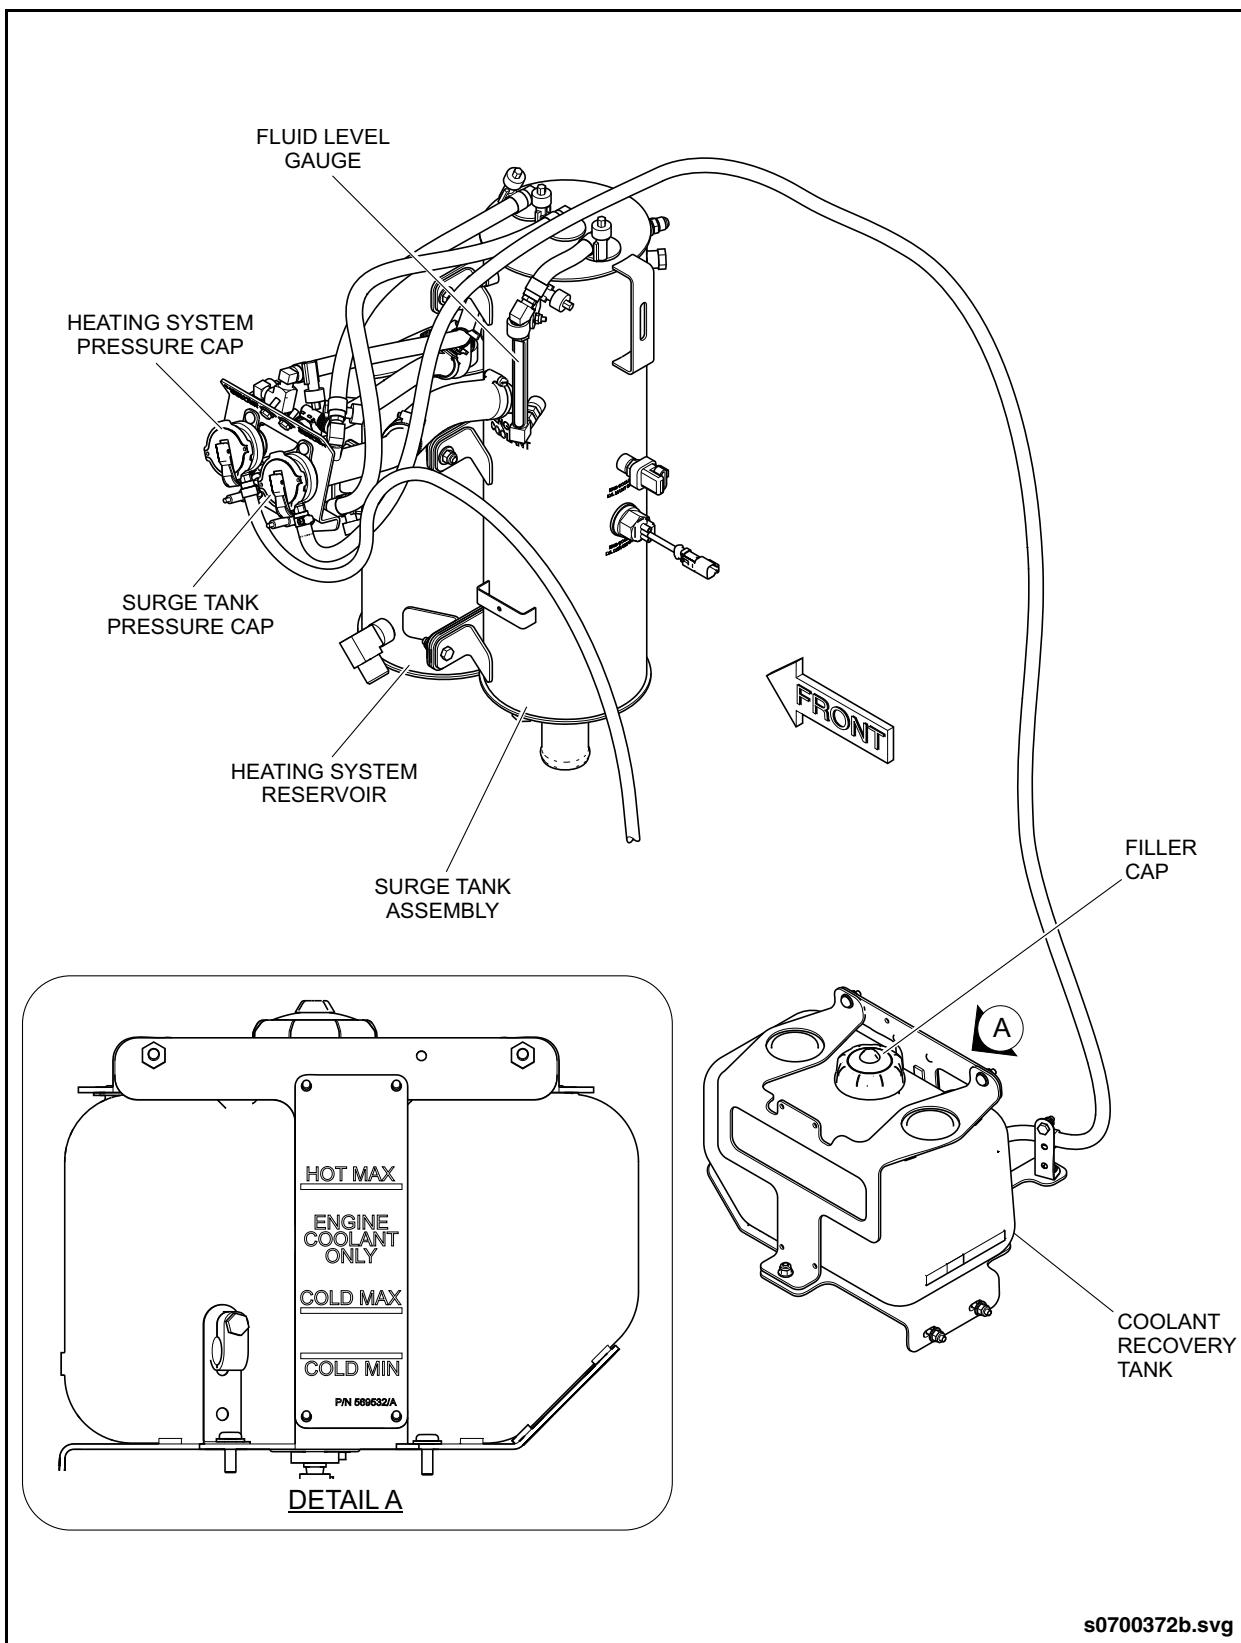

Fig. 6-2: Coolant System Fill Levels
12. Add coolant through the pressure-fill connector until coolant level is between the COLD MAX and HOT MAX markings on the coolant recovery tank. See "Fig. 6-2: Coolant System Fill Levels" on page 7.